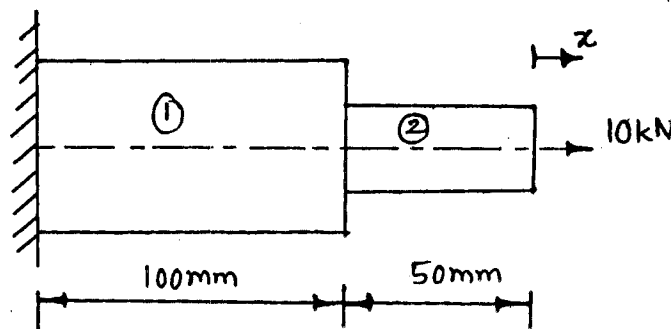

Fig.Q3(b)
- b. A stepped bar shown in Fig.Q3(b). Determine the nodal displacements and the support reaction. Take  $E_1 = E_2 = 2 \times 10^5$  MPa ;  $A_1 = 100mm^2$  ;  $A_2 = 5mm^2$ . (10 Marks)